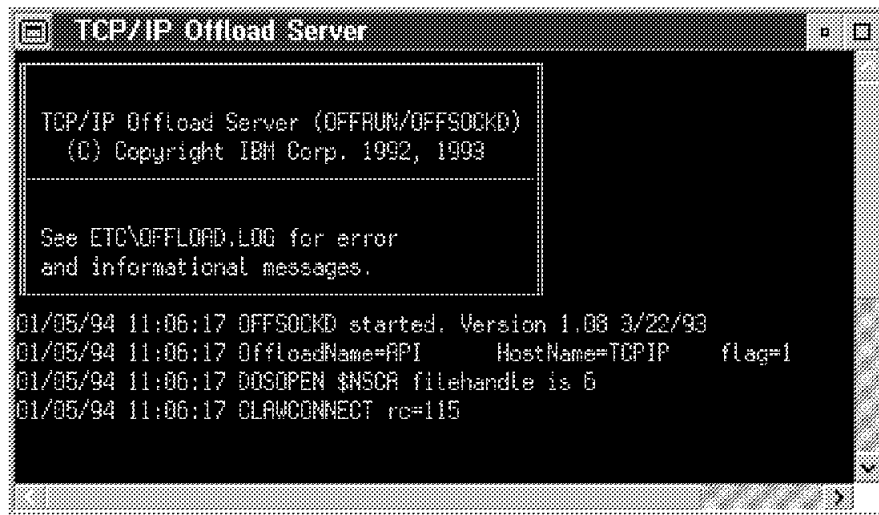

Figure 87. Offload Server Startup Window
- Step 3. Display the TCP/IP Offload Server window by selecting TCP/IP Offload Server and then pressing Enter. A window similar to Figure 87 appears. This is the TCP/IP Offload Server which is started automatically.